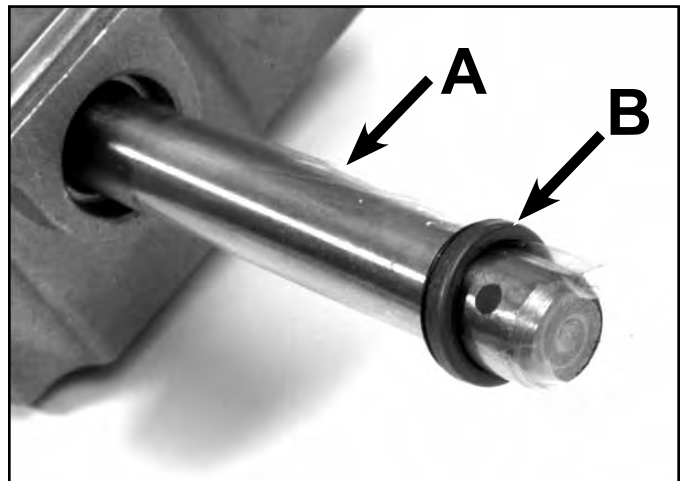

Fig 018
4. Using a seal protector, slide new seals down each side of the axle, Install the seal with the lip facing the transmission. The outer edge of the seal should be flush with the outside of the case. If a seal protector is not available, wrap a piece of cellophane around the axle (Fig. 018).